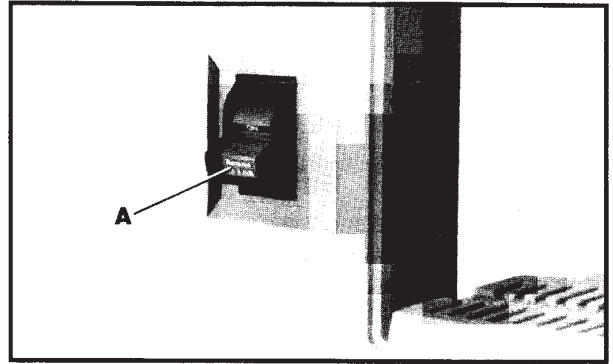

Fig. 13
The switch (A) Fig. 13, is located on the front side of the band saw. To turn the saw "ON" move the switch (A) to the up position. To turn the saw "OFF" move the switch (A) to the down position.